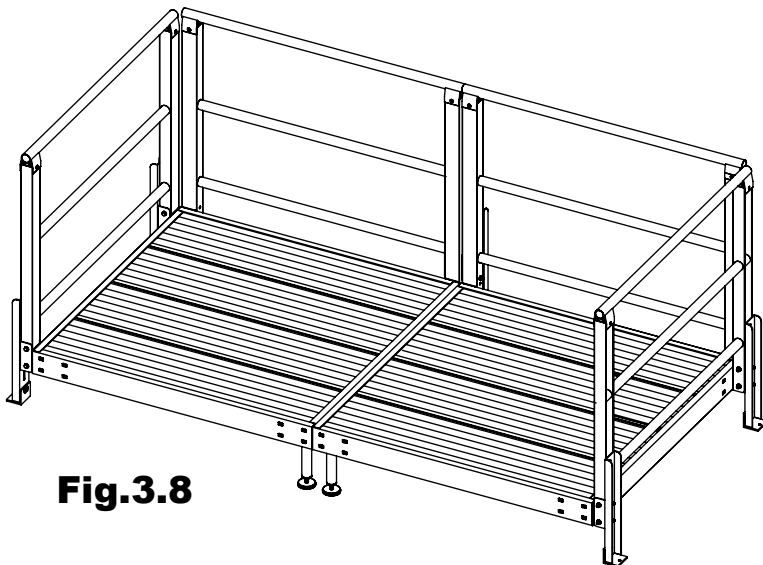

Fig.3.8
3.4 PLATFORM UNDER SUPPORT ATTACHMENT: Locate corners of platform that will require a platform under support kit (**Fig.3.8**). Place under support bracket flush in the corner of platform base, attach with four #10-16 self-tapping screws (**Fig.3.9**). Slip the sleeve clamp into the under support bracket, insert under support tube (**Fig.3.10**). Using a 5/32 allen wrench tighten set screw all of the way. The leveling pad can be used to make minor height adjustments; however, if major adjustments are necessary, the under support tube will need to be cut down.